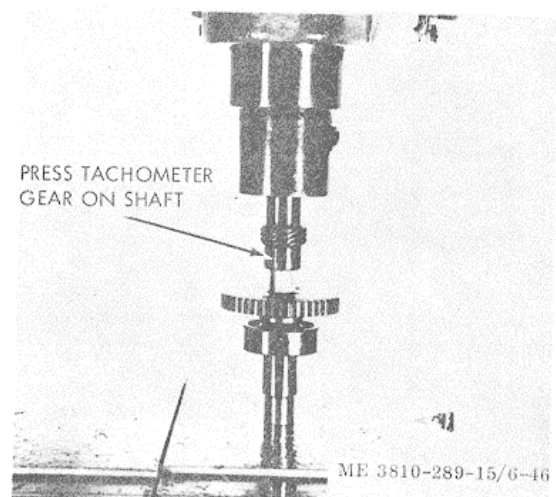

Figure 3-49. Tachometer gear being pressed on drive shaft.
(2) Press governor drive gear to drive shaft bearing over shaft.
(3) Press tachometer drive gear on shaft and against governor drive gear, figure 3-49.